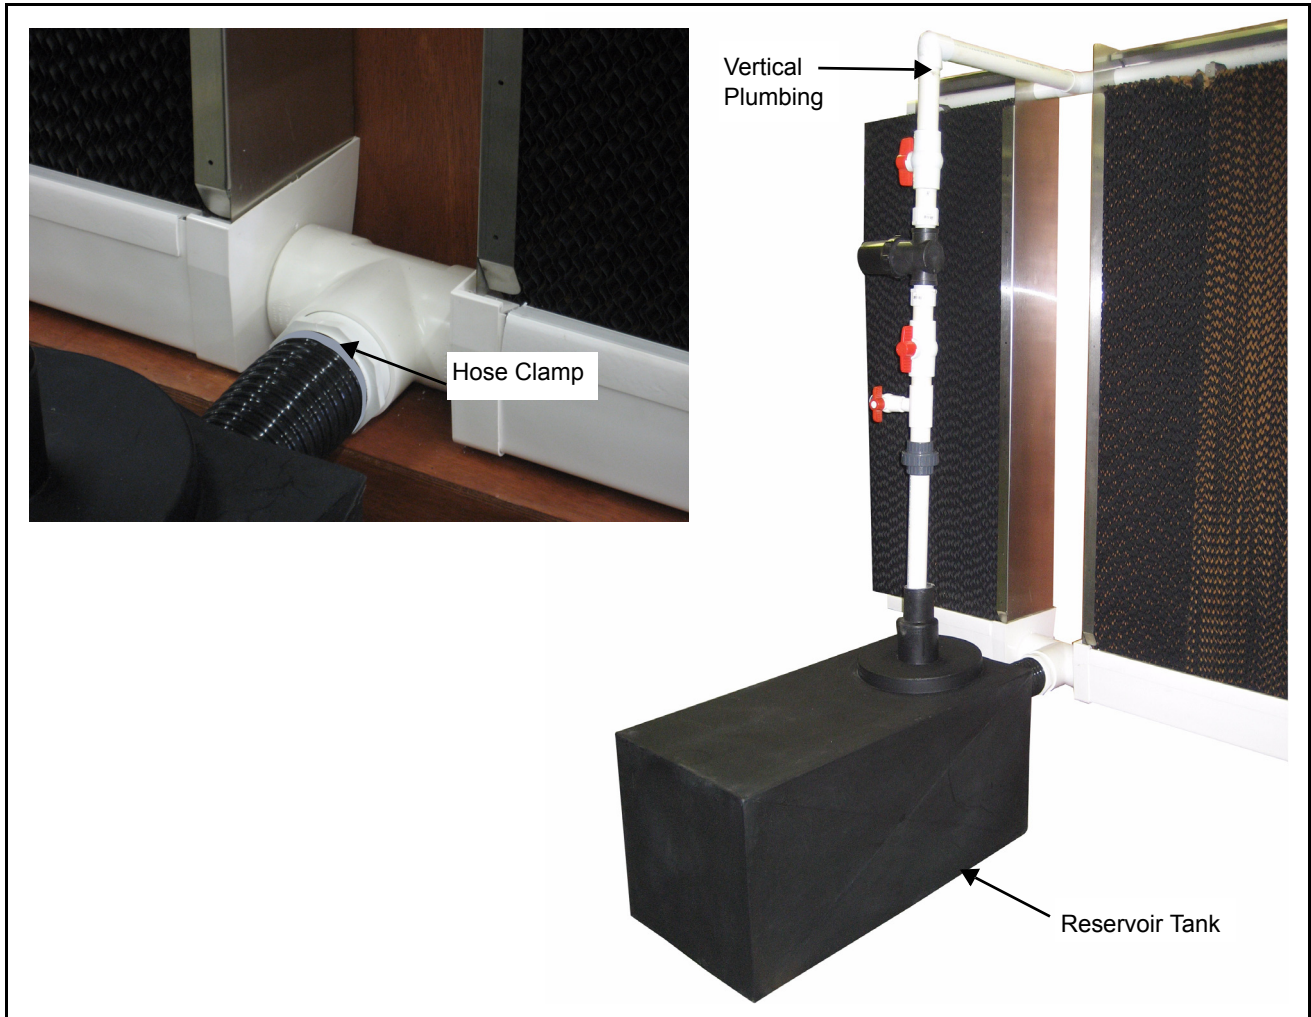

Figure 1E
Step 10: Place reservoir tank appropriately and connect discharge hose from tank to 4" SCH 40 Barb (60-0422) with hose clamps. (See Fig. 1E).
Step 11: Lastly, connect vertical plumbing coming from reservoir tank and glue to 1-1/2" SCH 40 Tee (60-0019) going into spray bar. (See Fig. 1E).